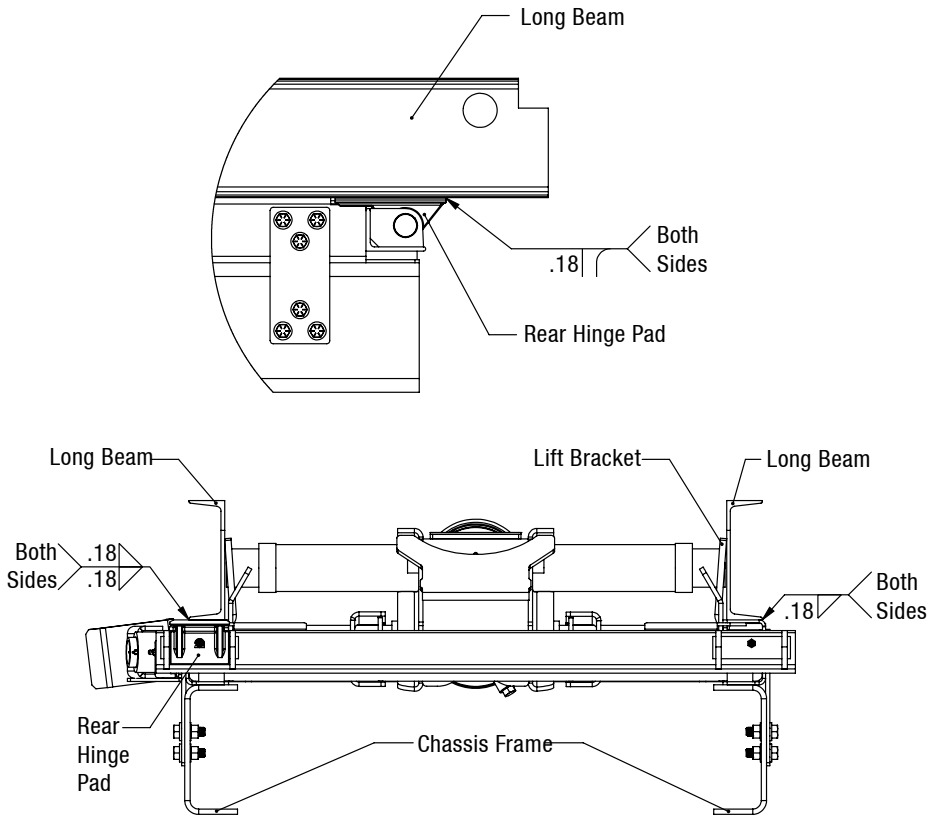

Figure 7: Body to Sub-frame Installation
6. Position the rear hinge brackets against the bottom side of the long beams. Once in position, weld the rear hinge brackets to the body long beams as shown in Figure 7.
7. Slide each lift bracket against the inside of the long beam channel. Then weld the lift bracket to the outside of the long beam (Figure 7).